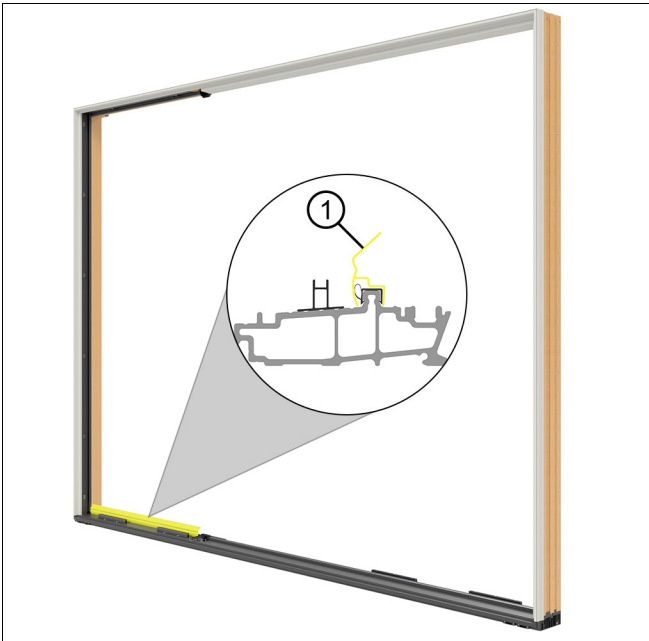

Figure 25
2. Install the weatherstrip jig. Install the leading edge of the jig under the weather strip bulb, then rotate the jig so the back edge snaps onto the interior leg of the weather strip. See Figure 25.